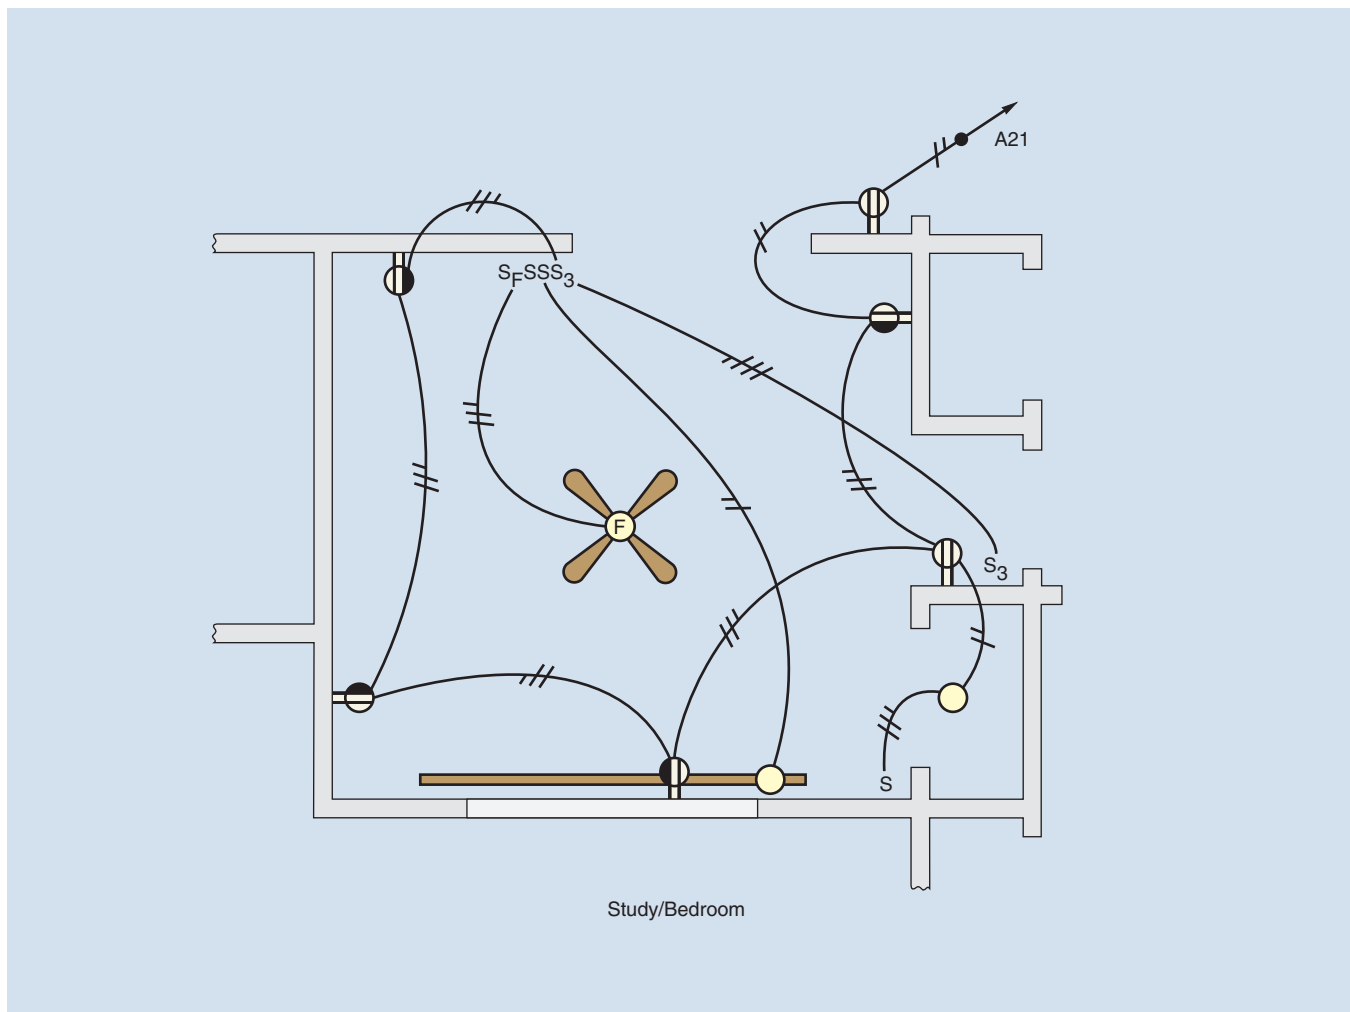

FIGURE 14-1 Cable layout for the Study/Bedroom. (Delmar/Cengage Learning)
This circuit feeds the Study/Bedroom at the receptacle in the Living Room just outside of the Study. From this point, the circuit feeds the split-wired receptacle just inside the door of the Study. A 3-wire cable runs around the room to feed the other four split-wired receptacles. Figure 14-1 shows the cable layout for Circuit A21.
8. Using the cable layout shown in Figure 14-1, make a complete wiring diagram of Circuit A21. Use colored pencils or pens.